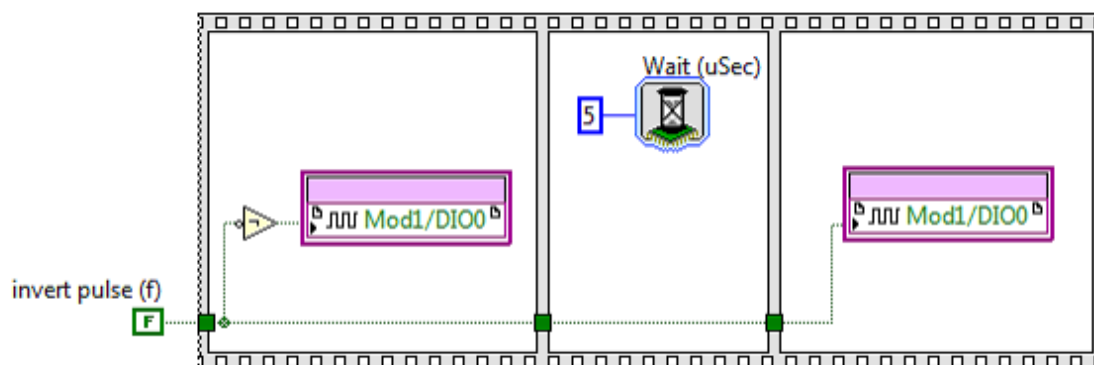

Figure 7.12. Program the EtherCAT FPGA using LabVIEW FPGA.
4. Create an FPGA VI under the EtherCAT device target and program using the EtherCAT I/O. The Figure 7.12 example uses the FPGA on an EtherCAT chassis to output a PWM signal.